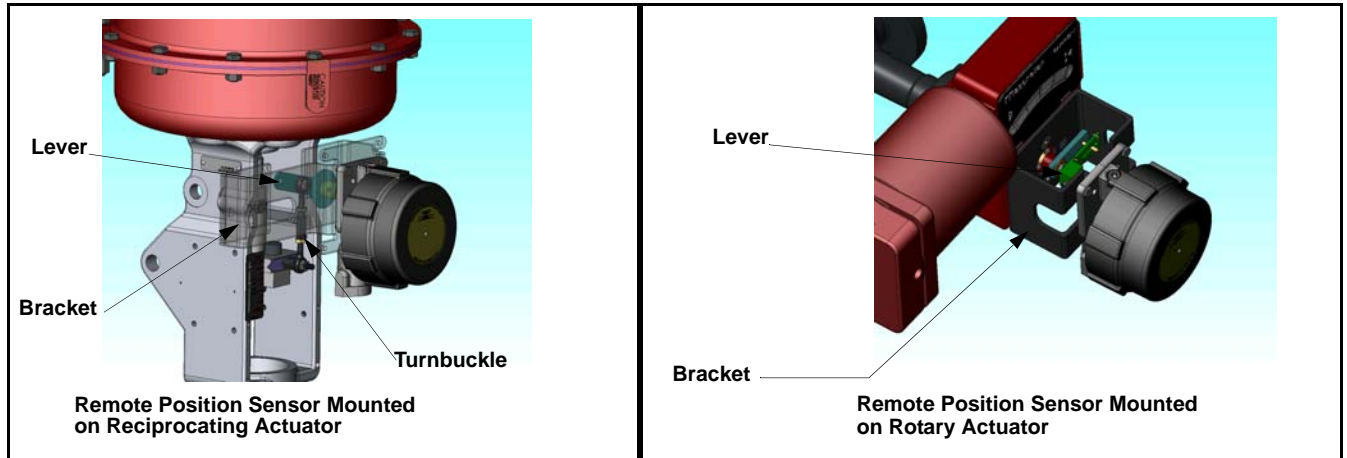

Figure 17 Remote Position Sensor Mounting
The instructions below cover mounting the Remote Mount Sensor to both reciprocating and rotary actuators. The two mounting kits share only one part; the ¼-20 hex head cap screws. Although the assembly steps are similar, differences are noted. Refer to Figure 17 on page 25 when reading these instructions for proper orientation.
- a. For *reciprocating* actuators, use the (2) 5/16-18 hex head bolts supplied.
- b. For *rotary* actuators, use the (2) 5/16-18 hex socket countersunk screws supplied.
2. Connect the Remote Mount Sensor (RMS) to the mounting bracket using (4) ¼-20 hex head cap screws. Orient the RMS as shown in Figure 17, such that the conduit opening faces the ground.